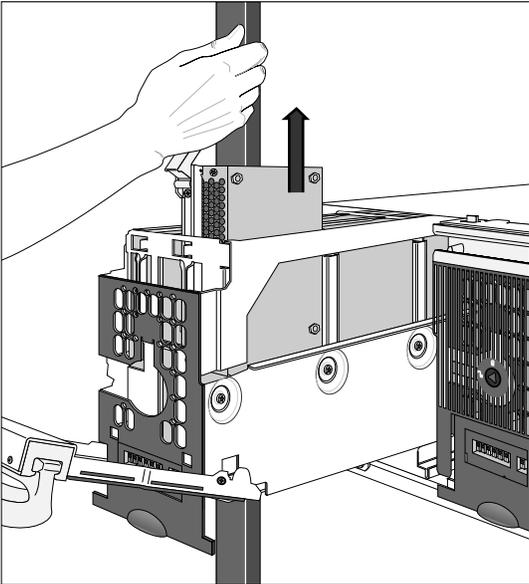

Figure 36. Removing the Disk DCC
11. Grasp the handle and lift the Disk DCC up and out of the drive slot (Figure 36), and set it aside.